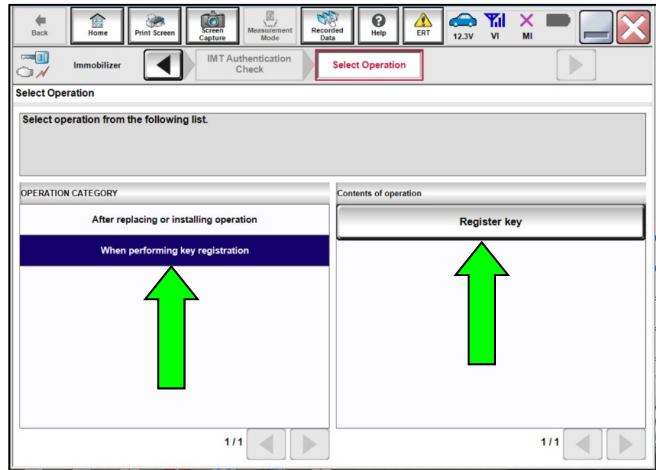

Figure 6
12. Follow the screen prompts to navigate to the screen shown in Figure 6.